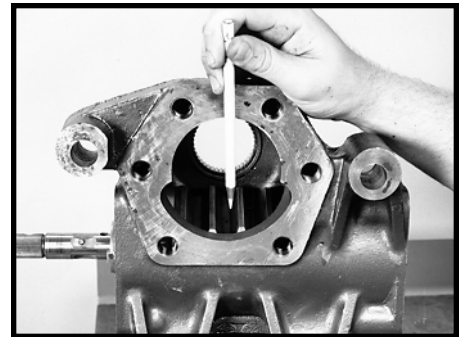

Figure 112
**NOTE: To ease the later assembly of the sector shaft, rotate the rack piston and worm shaft assembly in the housing so that the rack teeth are exposed in the sector shaft cavity of the housing. SEE FIGURE 112.**